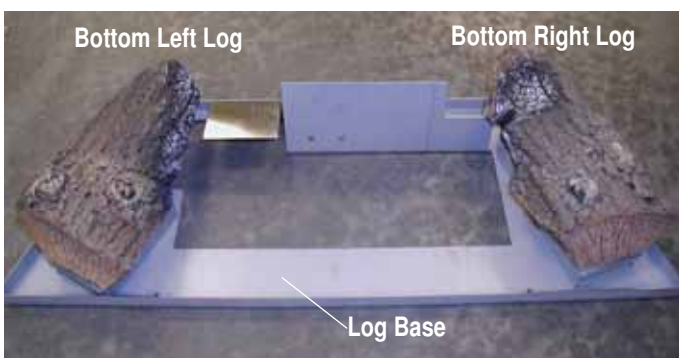

Figure 29b. Bottom left & right log placements.
1. Place the bottom left and right logs as shown above in figure 29b.